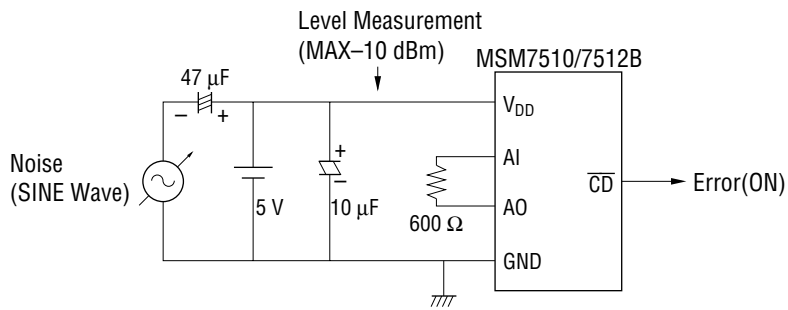

Figure 7-1 Power Noise Evaluation Circuit
Noise superimposed on the power supply ( $V_{DD}$ ) affects such characteristics as the bit error rate. This is due to an internal filter that consists of a switched capacitor (SC) circuit that cannot eliminate very high frequency noise. Specifically, noise (integer multiple) passes through the internal filter as a sampling frequency of the  $28\text{ kHz} \pm$  (passband) of the SC circuit. That noise is received as a modem signal. In this event, "carrier" is detected during a "no signal time". CD does not turn off, even though a "carrier off" is observed. To prevent such characteristic deterioration, suppress as much of the power supply noise as possible using bypass capacitors, etc. Figures 7-1 to 7-3 show the result of this observed event.